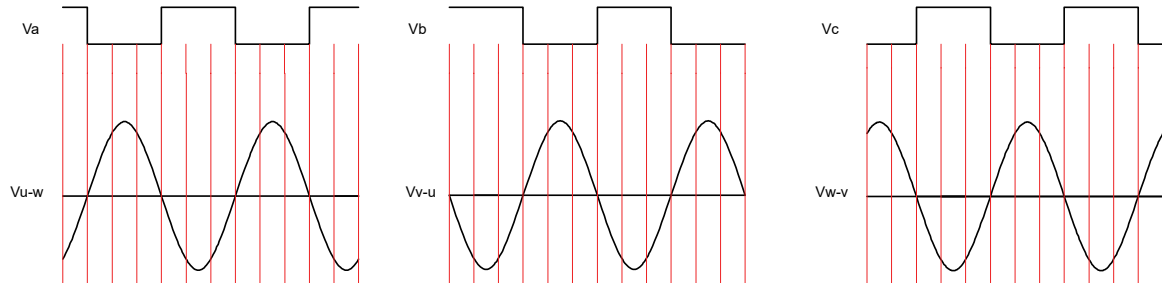
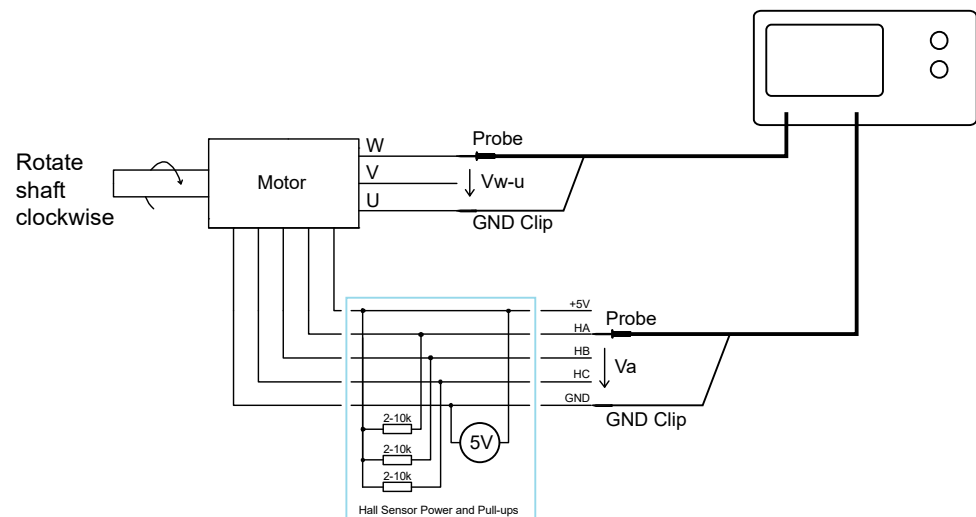

FIGURE 8-5. Relation between hall sensor and U V W windings
FIGURE 8-7. Use an oscilloscope and the circuit in figure to place the probes and generate these signals
V. See figure 8-5. The sine wave voltage will be inverted when turning the motor in the opposite direction.
The most precise evaluation of the Hall Sensors alignment is done using an oscilloscope and the circuit described in figure 8.7. Compare the shape of the Hall Sensor signal to this of the voltage that is generated on the motor phases as the shaft is rotated by an external force. Verify that the zero-crossing of the phase voltages is occurring at exactly the same time as the Hall Sensor transitions, as shown in figure 8-5.